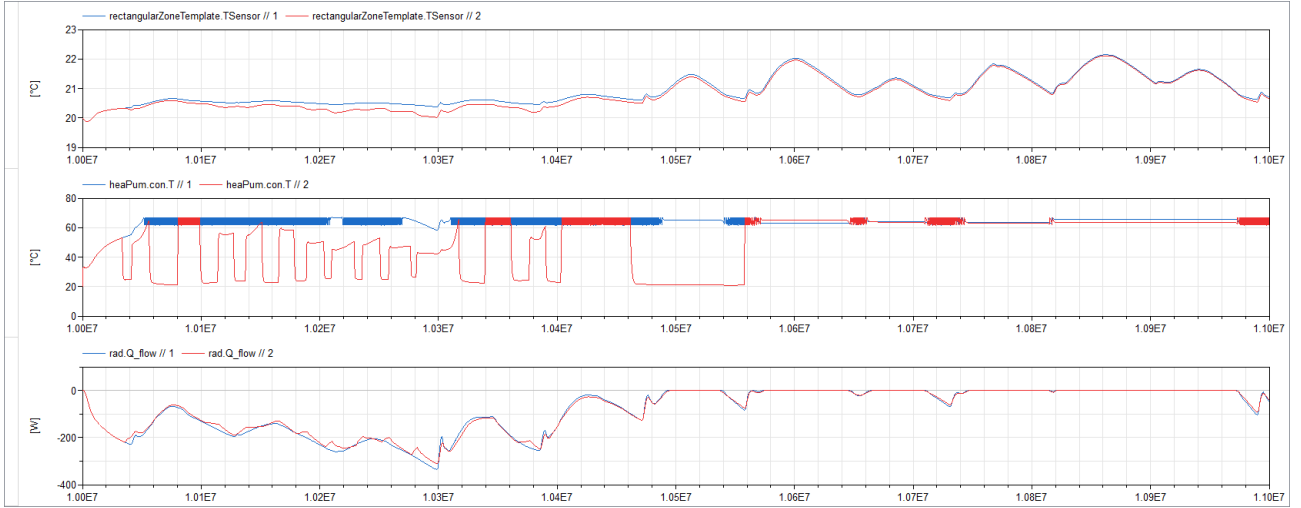

Figure 3: Comparison with (red) and without (blue) control for zone temperature, supply water temperature and radiator thermal power.
**Reference result** Figure 3 compares the results with the results without controller. We see that indeed, the supply temperature is reduced significantly. This causes the zone temperature to be slightly lower, up to about 0.25 K. The COP however increases significantly, from about 2.7 to about 3 to 4. Consequently, the energy use over the period is reduced from 16.43 kWh to 11.84 kWh.